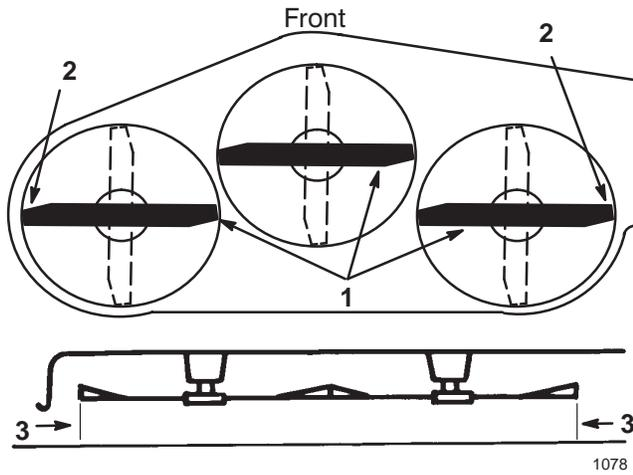

Figure 50
- Carefully rotate the blades side to side (Fig. 50). Measure between the outside cutting edges and the flat surface (Fig. 50). If both measurements are not within 3/16 in. (5 mm), an adjustment is required; refer to steps 9 and 12.